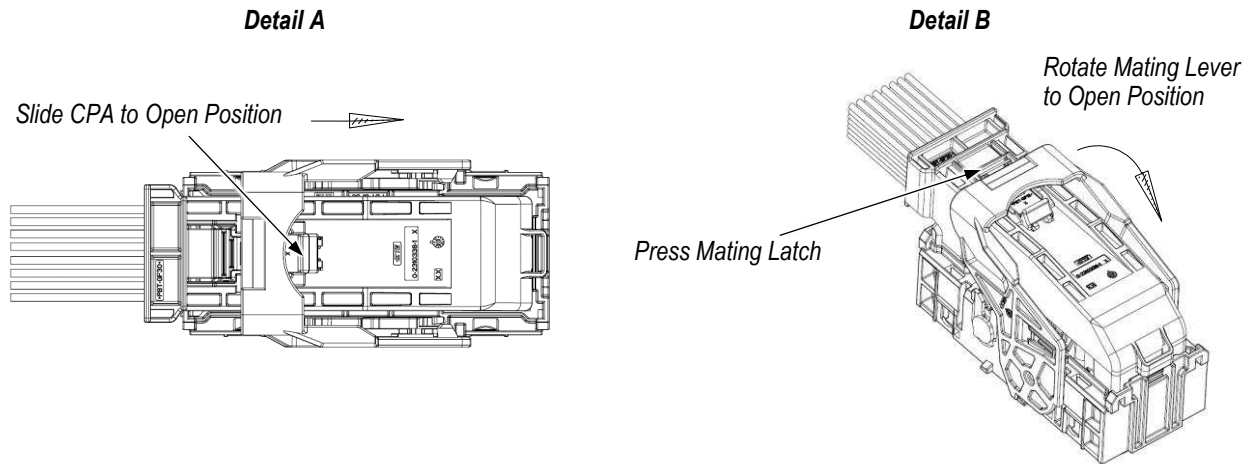

Figure 6
1. Slide the CPA away from the mating lever until it stops. The CPA is now in the open position. Refer to Figure 6, Detail A.
2. Press the mating latch to release the mating lever, then rotate the mating lever until it stops. See Figure 6, Detail B. The mating lever is now in the open position (as shown in